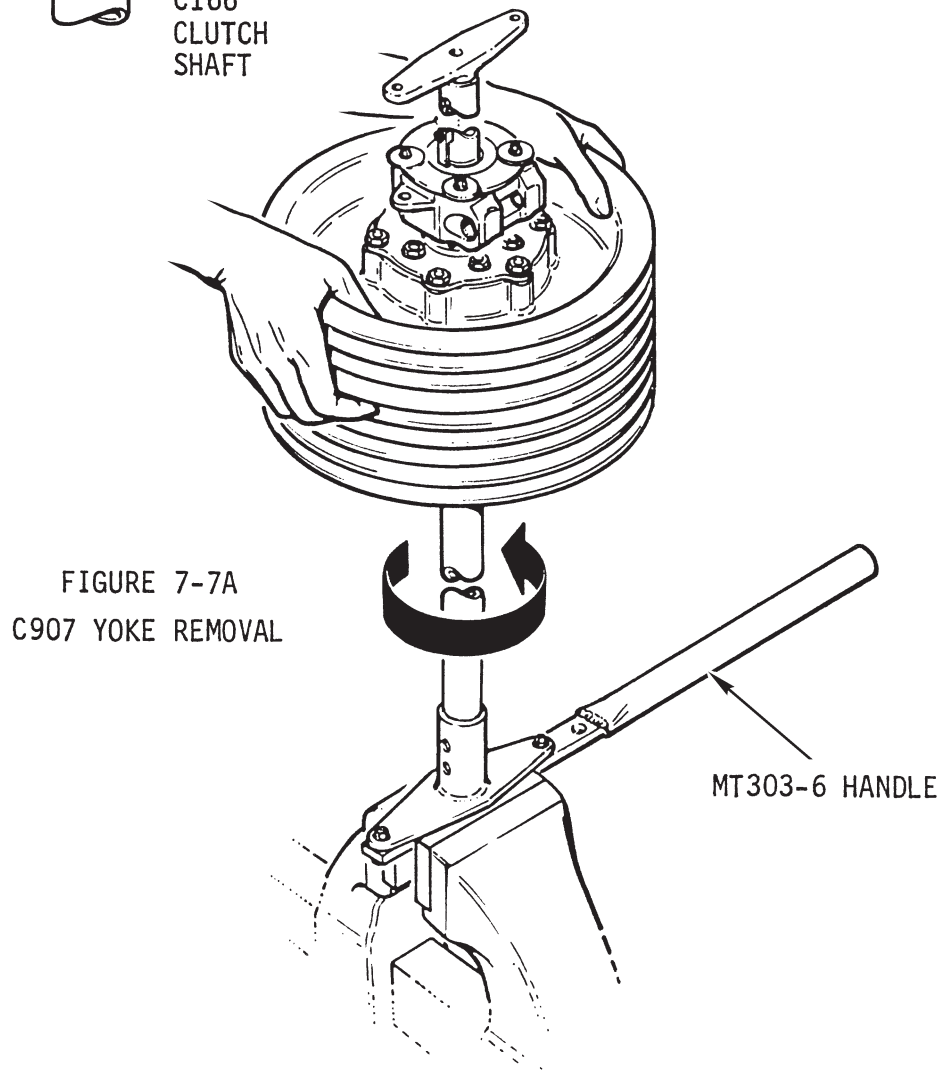

FIGURE 7-7A
- b. If a press is not available, tightly secure C907 yoke arms to MT303-6 handle using NAS6606 bolts. Refer to Figure 7-7A. Clamp handle in a vise and twist clutch shaft out of yoke by turning upper sheave. Apply penetrating oil to yoke-shaft juncture as required. If difficulty is encountered, remove handle and arrange to use a press as described in preceding step.